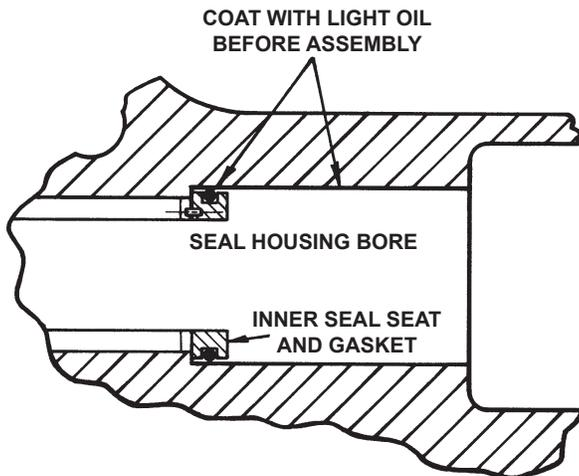

FIGURE 12
3. Coat the outside of the inner seal seat and O-ring gasket and also the inside diameter of the seal housing bore with light Refrigeration Oil (not grease), **see figure 12**. Press the inner seal seat with O-ring gasket into place in the seal housing bore with your fingers or by putting a piece of cardboard over the face of the seal seat and pressing with a block of wood or squared off piece of pipe. Remove the cardboard. **Figure 13** shows how the inner seal seat pin fits into either of the slots in the end of the bracket bushing. Be sure the pin engages one of these slots in the bushing when you have finished pushing the seal seat into the seal housing bore. Check by looking through the bracket bushing from the casing end.